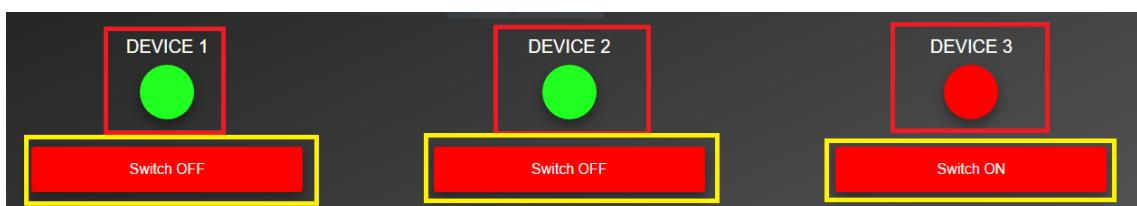

Figure 1.15: Feedback system
- Figure 1.15 shows circular blocks which shows current device status obtained in request.